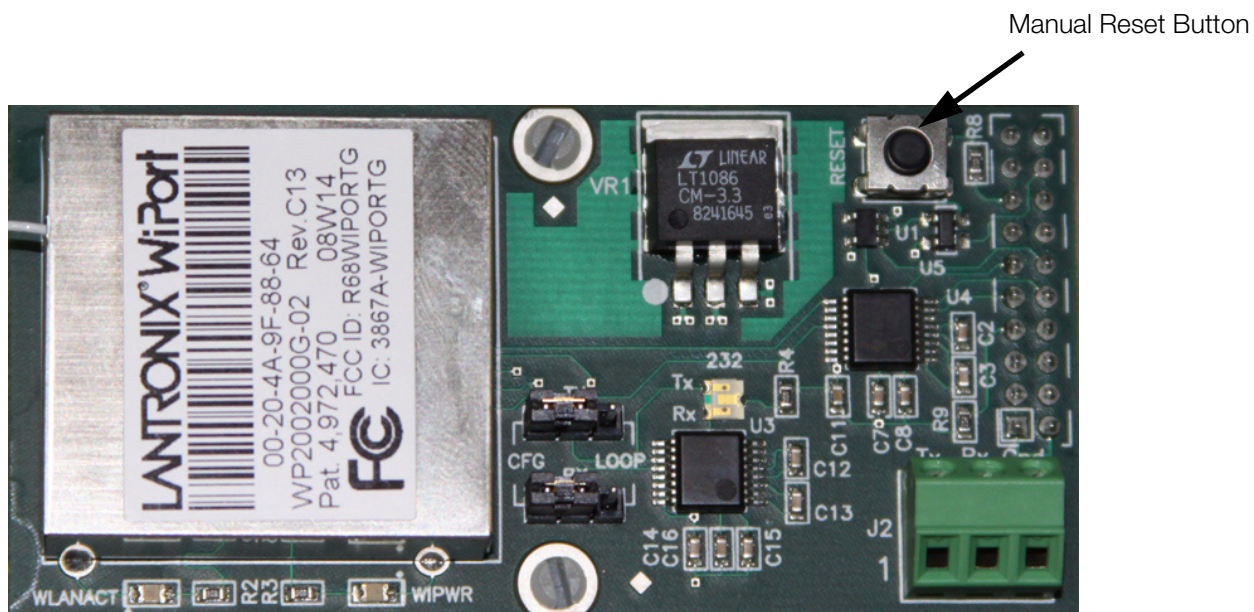

Figure 8. Manual Reset Button Location on WLAN Option Card
5. Reset the WLAN option card by pressing the manual reset button shown in Figure 8, and immediately upon release enter three lowercase x characters (xxx) at the same time.